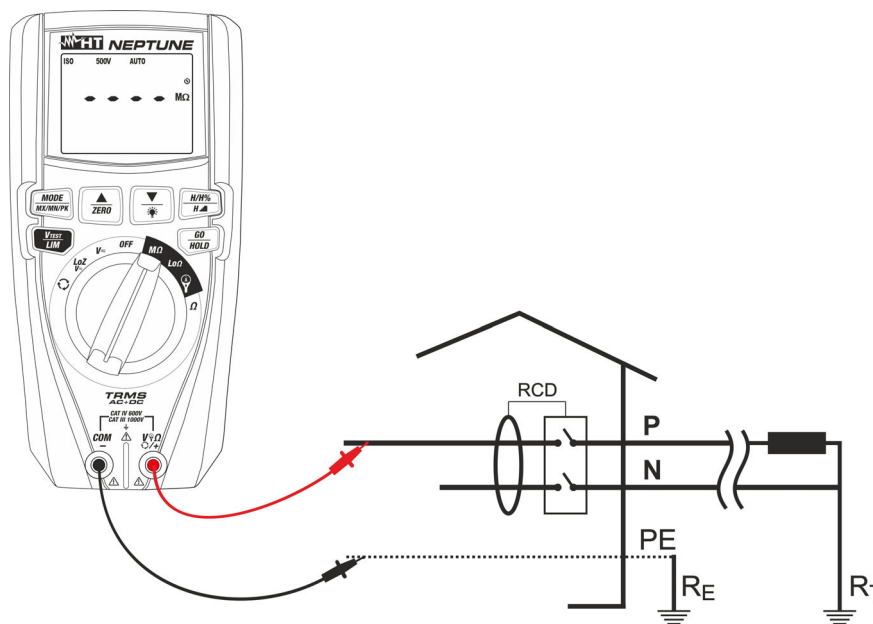

Fig. 15: Use of the instrument for insulation resistance measurement in AUTO mode
7. Insert the red lead into input terminal **V $\Omega$ /+/+** and the black lead into input terminal **COM/-** and possible alligator clips, and connect the instrument to the system to be tested (see Fig. 15).